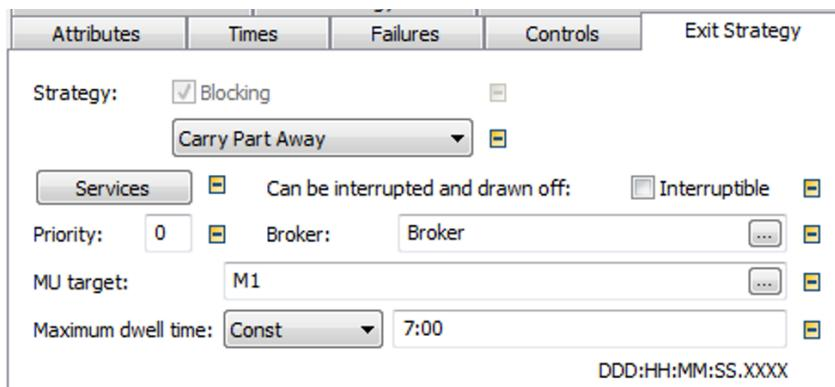

Fig. 9.37 Buffer exit strategy
- Buffer: capacity 4 parts, exit strategy “carry part away” (or transport importer) with the settings like shown in Fig. 9.37.